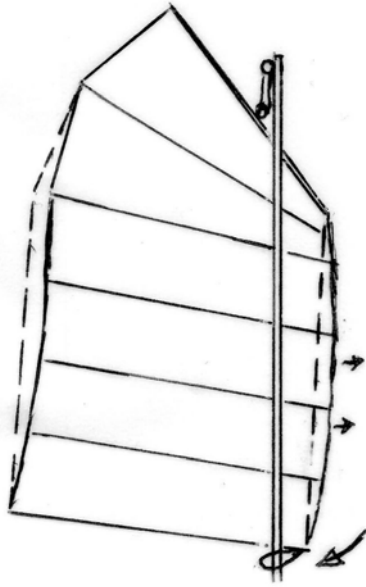

Fig 2: Tack parrel at work.
- The first natural step would be to pull the tack aft into position as shown on Fig 2 (overleaf). As the yard and sail still want to swing forward, the luff will bulge a bit forward (much exaggerated on Fig 2). With sheet forces added, the problem will get worse.